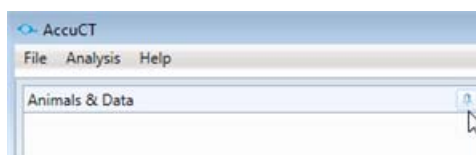

Figure 13. Vertical Pin Icon on Animals & Data Tab
- 1 Click the vertical pin icon on the top right side of the tab to be moved. See Figure 13.